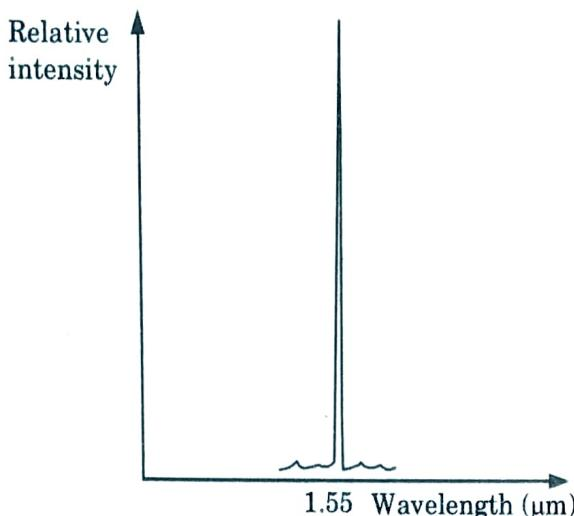

Fig. 3.23.1. Single mode laser.
13. Fig. 3.23.1 shows a typical output spectrum for a single mode device. However, injection lasers with short cavity lengths (around 50 μm) are difficult to handle and have not been particularly successful.